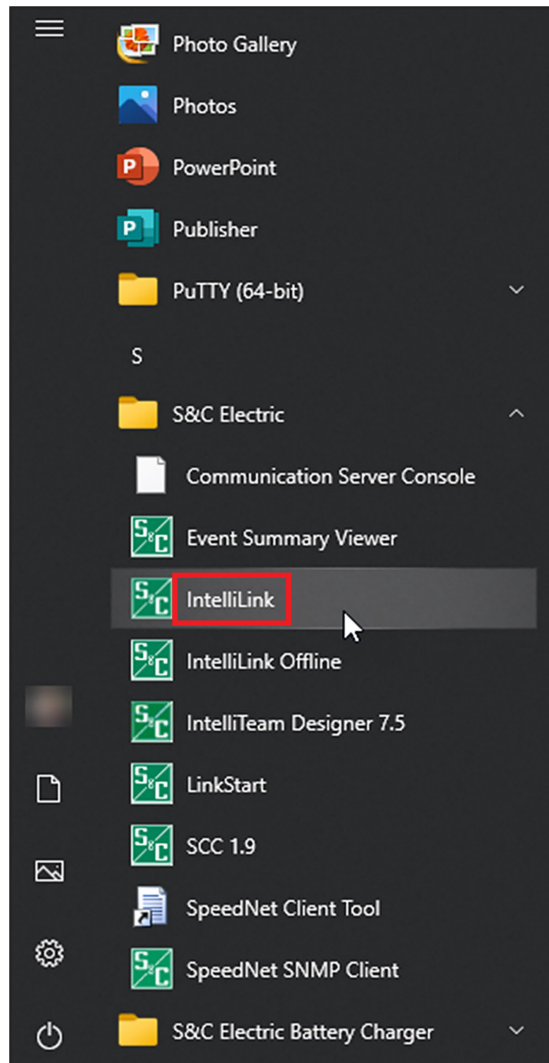

Figure 3. The Windows Start menu.
**STEP 1.** Click on the Windows **Start** button click on the **All Programs** menu item. Open the S&C Electric folder and click on the **IntelliLink** icon. See Figure 3.